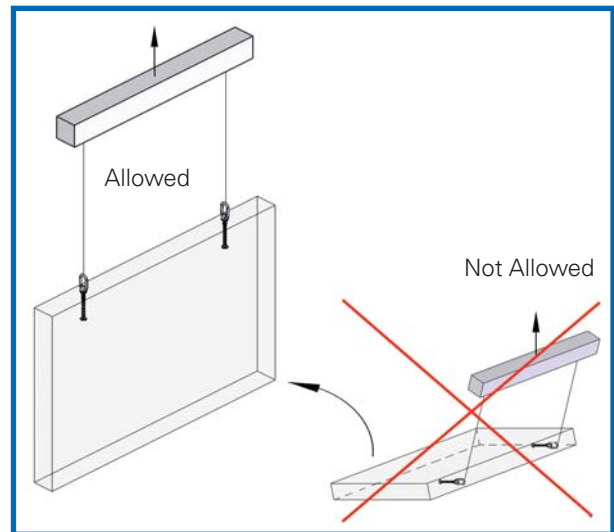

Figure 14: Case of Operation Straight Pull
- Method of safe & unsafe operation are shown in figures 14 & 15